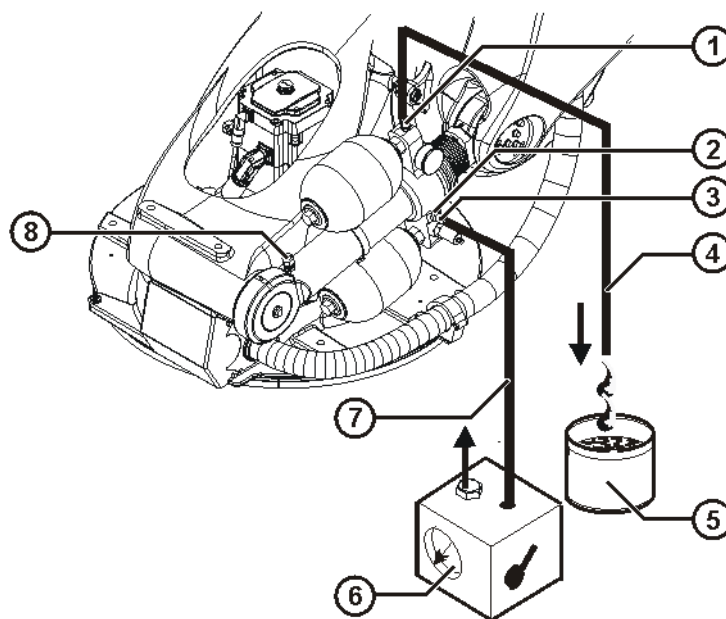

**Fig. 9-9: Setting the gas pressure**
7. Remove the protective caps from the diaphragm accumulator and unscrew the Allen screw slightly (without a torque wrench, by a quarter of a turn at the most) (>>> Fig. 9-9 ).